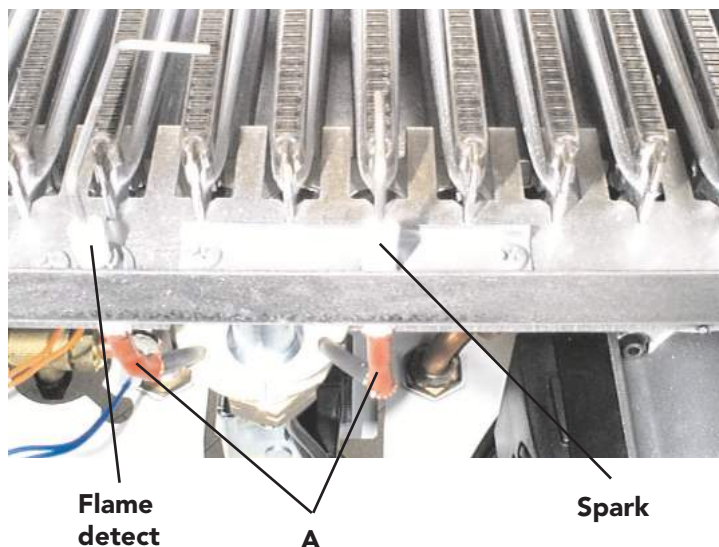

Fig. 41
## 7.12 Spark or flame detect electrode (fig. 41)
- Identify electrode from fig. 41